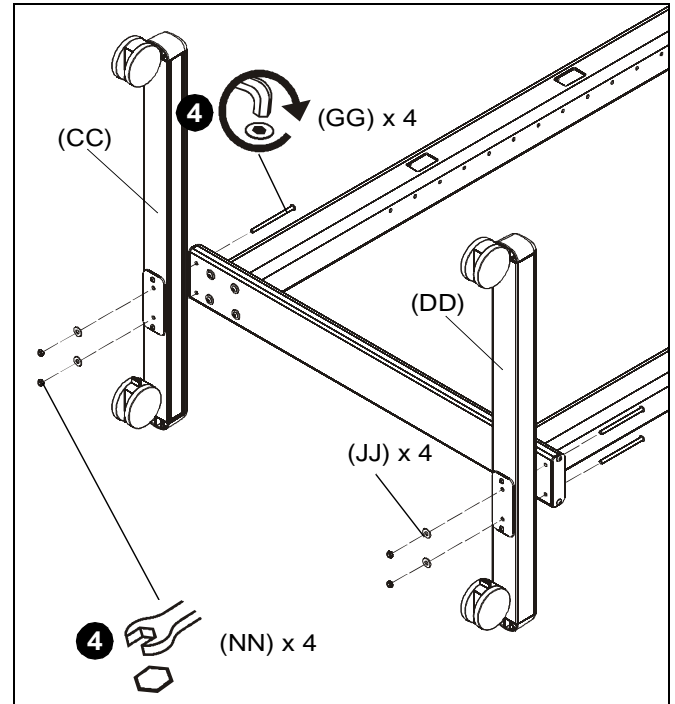

Figure 2
4. Use four 5/16-18 x 5" button head cap screws (GG), four 5/16" washers (JJ) and four 5/16-18" lock nuts (NN) to secure right and left legs (CC and DD) to cross bar (J). (See Figure 2)